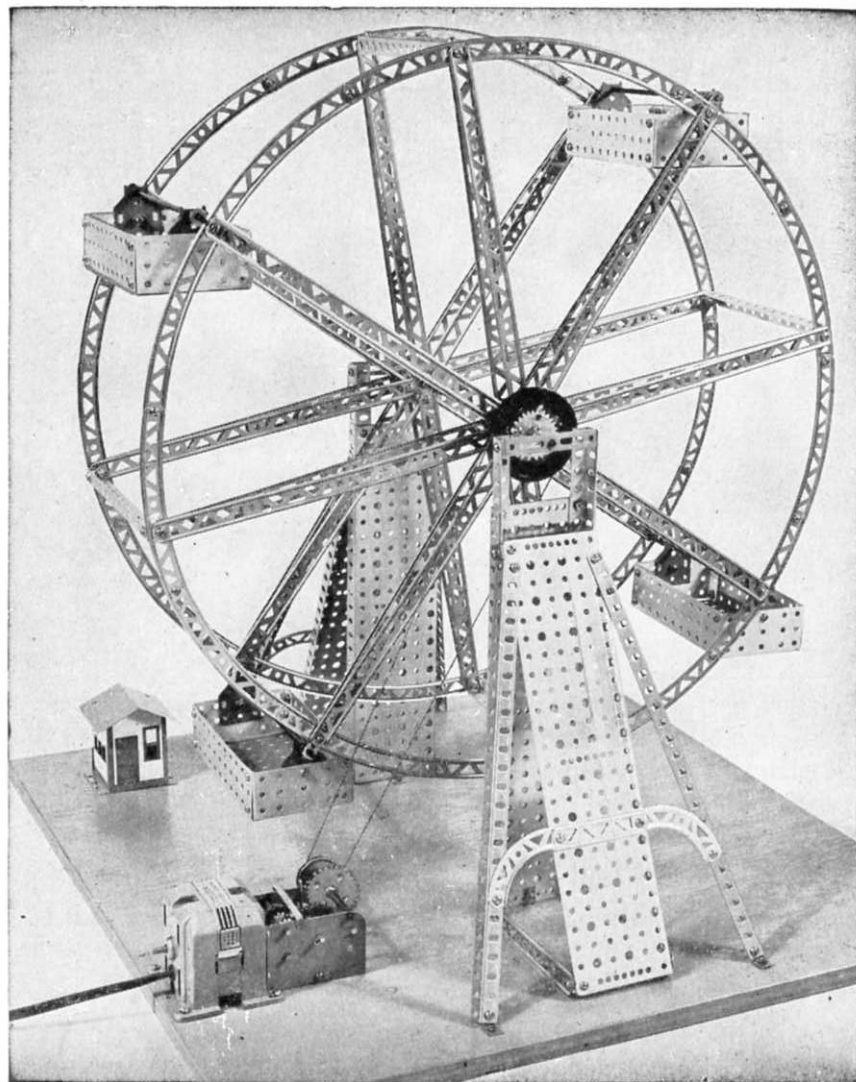

FIGURE 1
This model is not difficult to build. Figure 1 shows the completed model. The model is built with two large wheels fastened to a shaft which is held between two supports. The power unit drives the model with pulleys and string. The model should be fastened to a wood base or other suitable material.
The hub of each wheel consists of two (BT) pierced discs to which are fastened 16 (C) 10" girders, 8 to each disc. The two wheels are fastened together at four places on the rim with (BE) 6" angle girders held to the rims with (CH) right angles. See Figure 1.